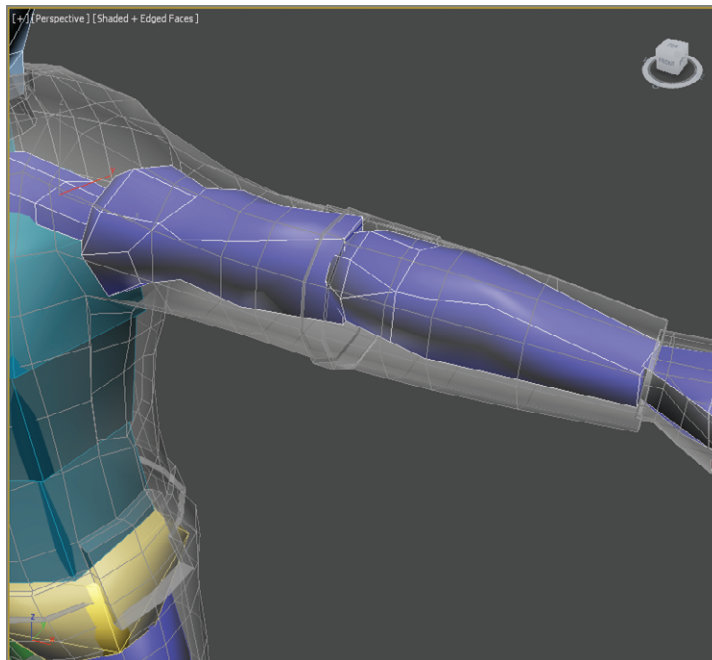

FIGURE 12.13 Arm positioned within the 3D mesh
4. Scale and rotate the left upper arm and left forearm using the same techniques you used to adjust the biped's legs to fit the arm with the model. Pay close attention to the placement of the elbow and wrist joint, as shown in Figure 12.13